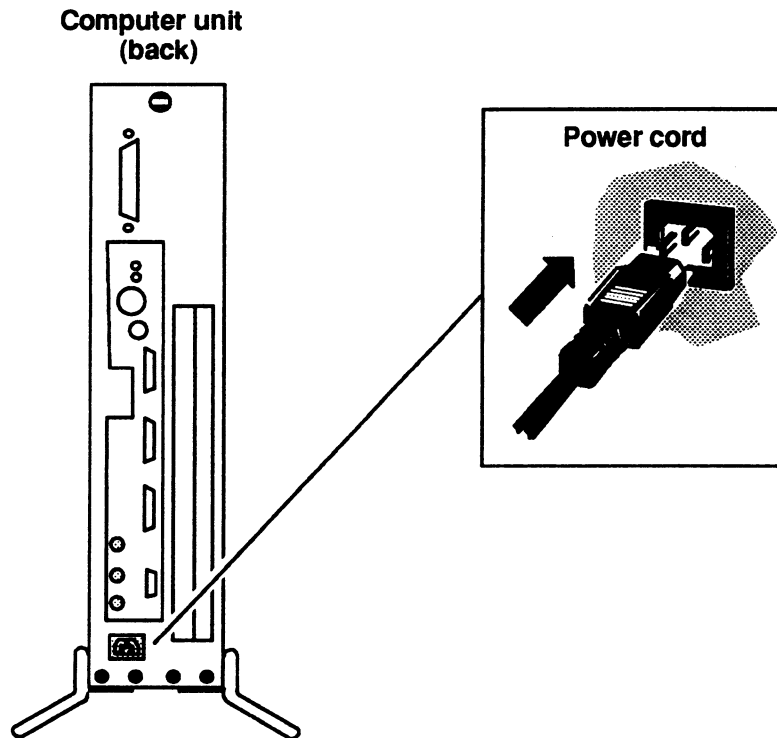

Figure 1–15 Connecting the Computer Unit's Power Cord
6. Plug the power cord into the receptacle on the back of the computer unit as shown in Figure 1–15.